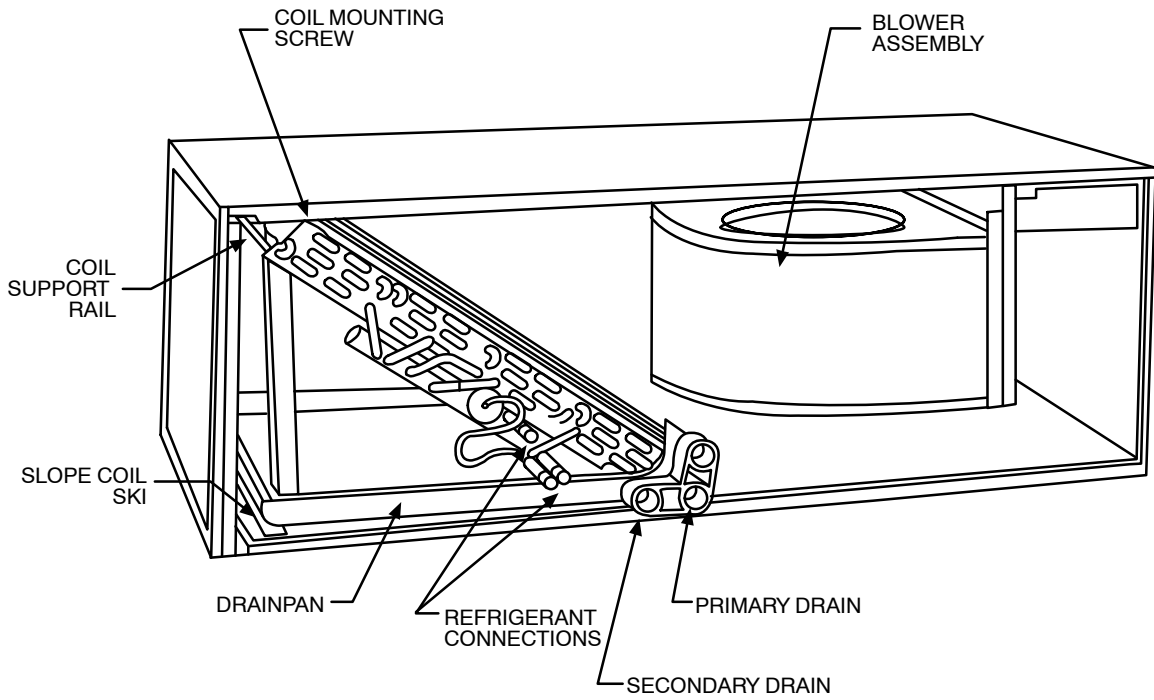

Fig. 5 - Slope Coil in Horizontal-Right Application (FE4A only)
1. Remove blower and coil access panels and fitting panel. (See Fig. 5.)